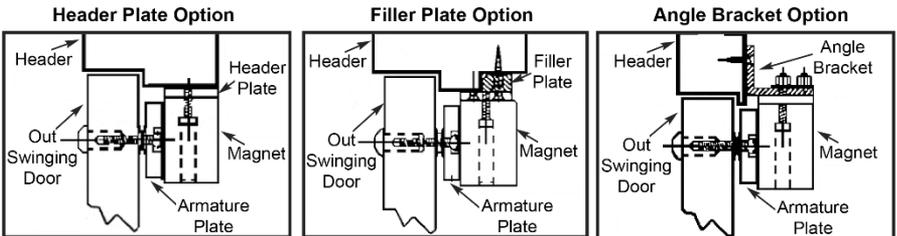

Figure 2. Door Frame Installation Options
1. DETERMINE the type of door frame header and whether a filler plate, header bracket, or angle bracket is required for installation (see Figure 2, "Door Frame Installation Options").